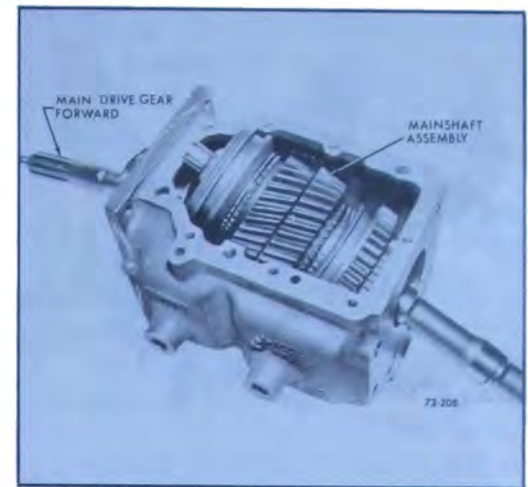

Figure 72-208—Removing Mainshaft Assembly
18. Remove mainshaft assembly through top of case. See Figure 72-208.